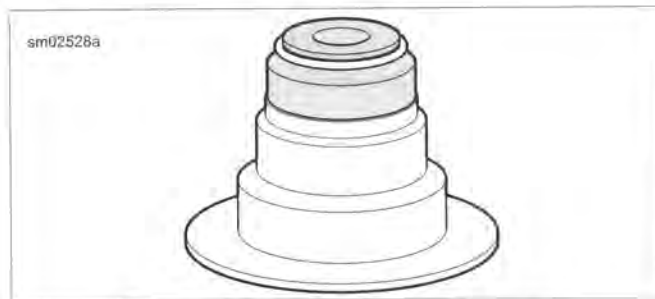

Figure 3-47. Valve Stem Seal Assembly
9. See Figure 3-47. Slide **new** valve stem seal assembly over capsule and down valve stem until seated against cylinder head casting. Remove capsule from valve stem tip.